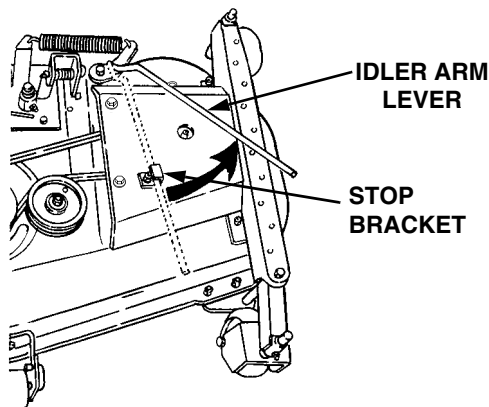

Figure 34
11. Disengage the deck idler arm lever from its stop bracket and release the spring tension by rotating the lever out and rearward (See Figure 34).